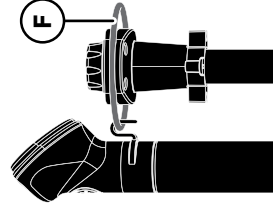

Figure 5
- 2.** Hang the Fabric Nozzle onto the Hanger Ring (F) (Figure 5).